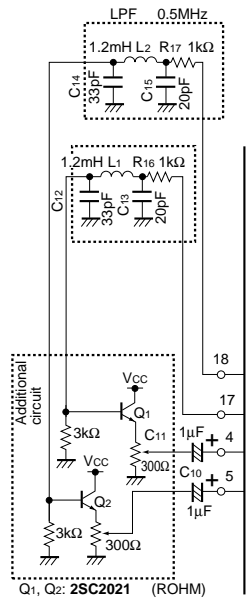

Fig. 15
(2) The VCXO remains in a free-running state except during superimposition.
(4) Pin 4 (B-YIN) and pin 5 (R-YIN) have high impedance and are susceptible to the effects of noise and other external factors during pattern generation. For this reason, we recommend adding the circuit in Fig. 15 to lower the input impedance. Adding this circuit can also reduce carrier leakage.